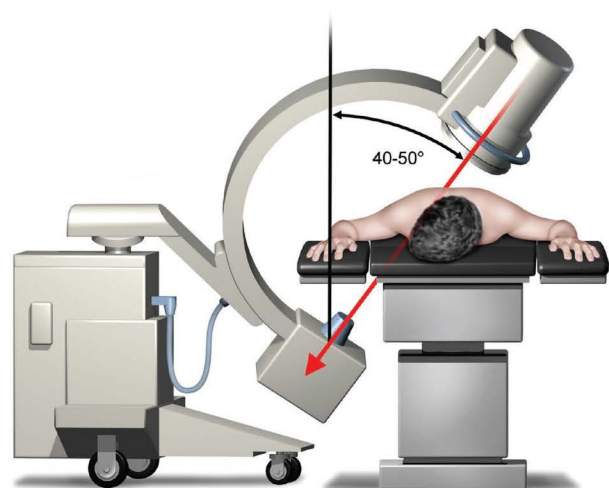

Fig. 16
- 40-50 degrees from the vertical axis perpendicular to horizontal plane (Fig. 16)